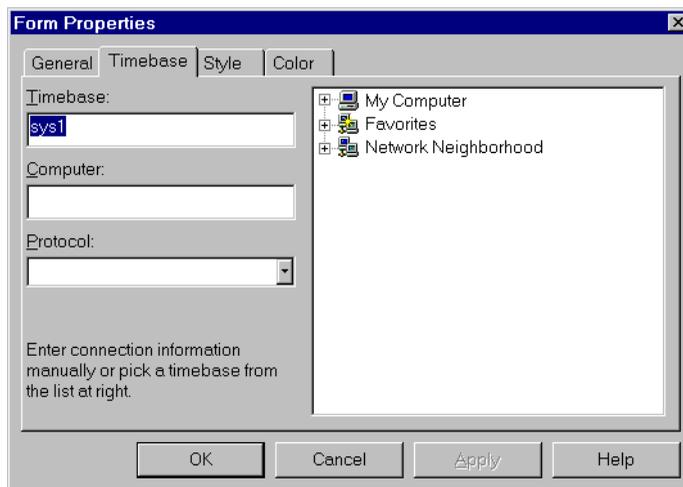

Figure B-13. Connect to Timebase
5. A dialog box appears (see Figure B-13).